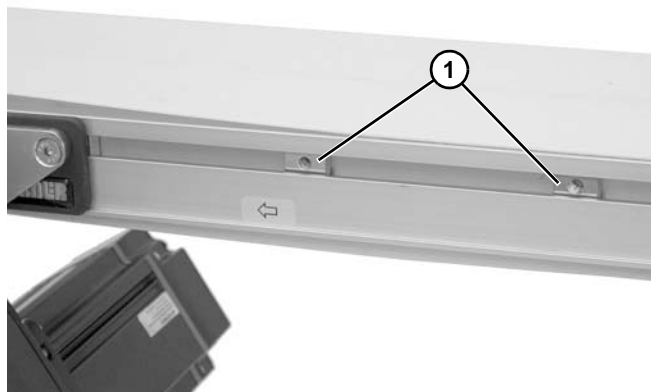

Figure 15
1. Install t-bars (Figure 15, item 1) into conveyor t-slot.